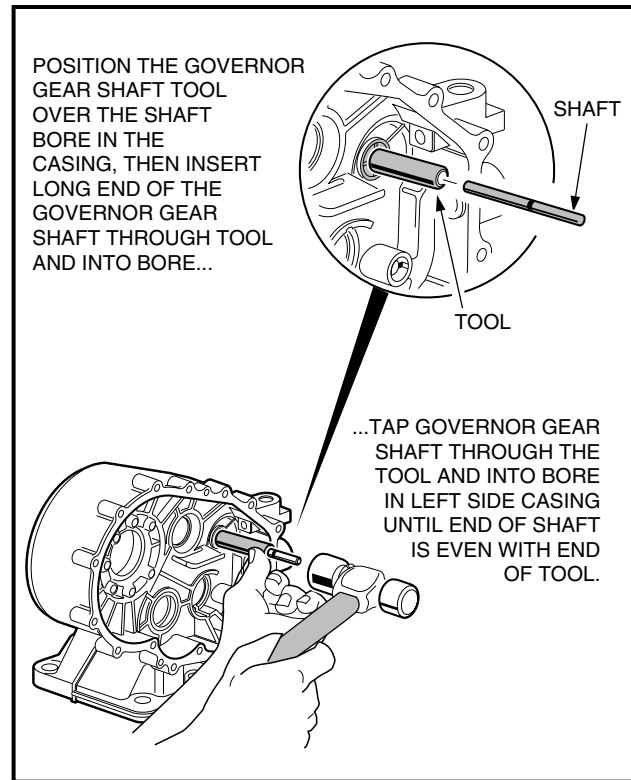

FIGURE 10-69
3. Position the governor gear shaft installation tool (Club Car Part No. 1019331-01) over the shaft bore in the inside of the left (driver) side casing and insert the governor gear shaft into the tool, long end (from the groove) first, as shown (**Figure 10-69, Page 62**). Make sure the shaft is started into the bore and then, using a light hammer, carefully tap the governor gear shaft into bore until the end on which you are tapping is flush with the end of the tool.